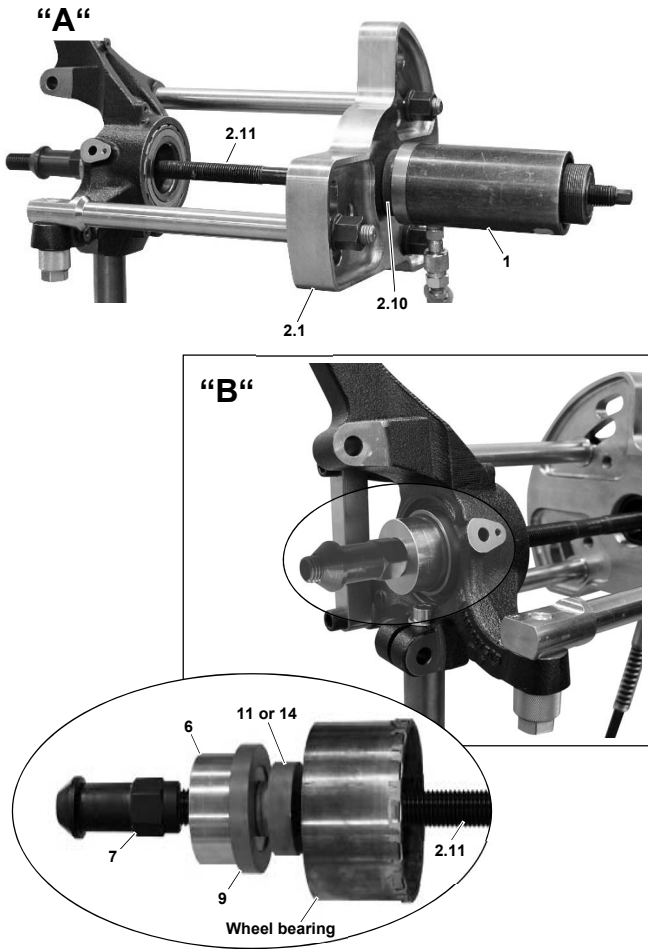

Fig. 40: Remove wheel bearing
Operate hydraulic pump and remove wheel bearing from steering knuckle. (Fig. 40)
5. Remove wheel bearing from pull/pressure spindle "2.11" (Fig. 40). For this, release pressure on hydraulic pump and unscrew hydraulic cylinder "1" and adaptor "2.10" from base plate. Next, unscrew clamping nut "7", pressure ring "9" with adaptor "6" and centring ring "11" or "14" from pull/pressure spindle "2.11". Remove wheel bearing.